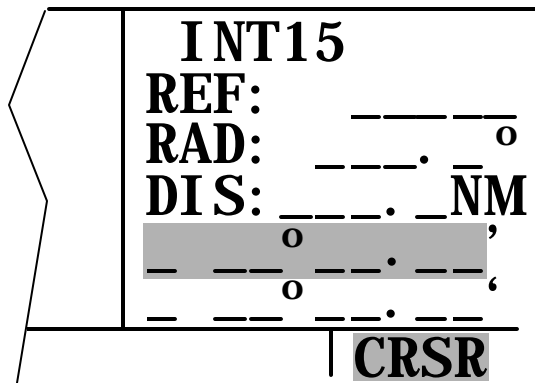

Figure 3D-34. Intersection or Supplemental Waypoint Page
4. Turn the right outer knob counterclockwise to position the cursor over the dashes to the right of REF. Refer to Figure 3D-34.